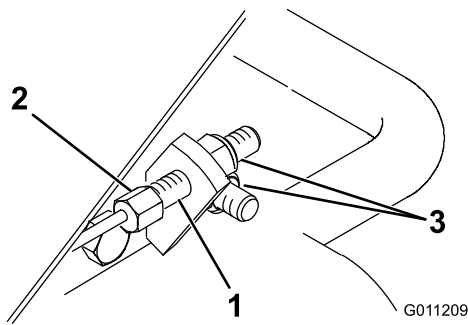

Figure 48
1. Tension the cable by securing the cable end hex with an open end wrench and turning the nut on the cable end with another wrench (Figure 48).